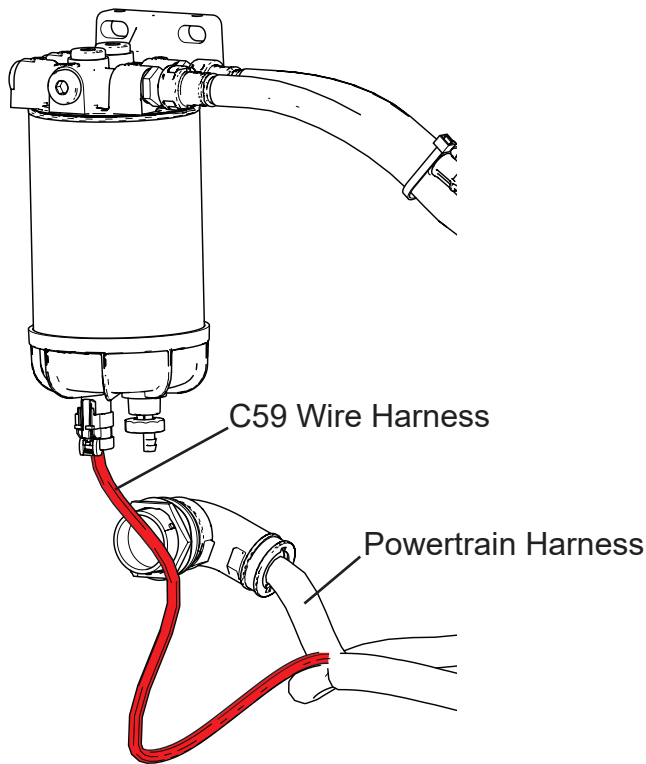

Figure 2
4. Trace connector C59 harness wires back to powertrain harness, see Figure 2. Remove zip ties securing C59 harness wires.